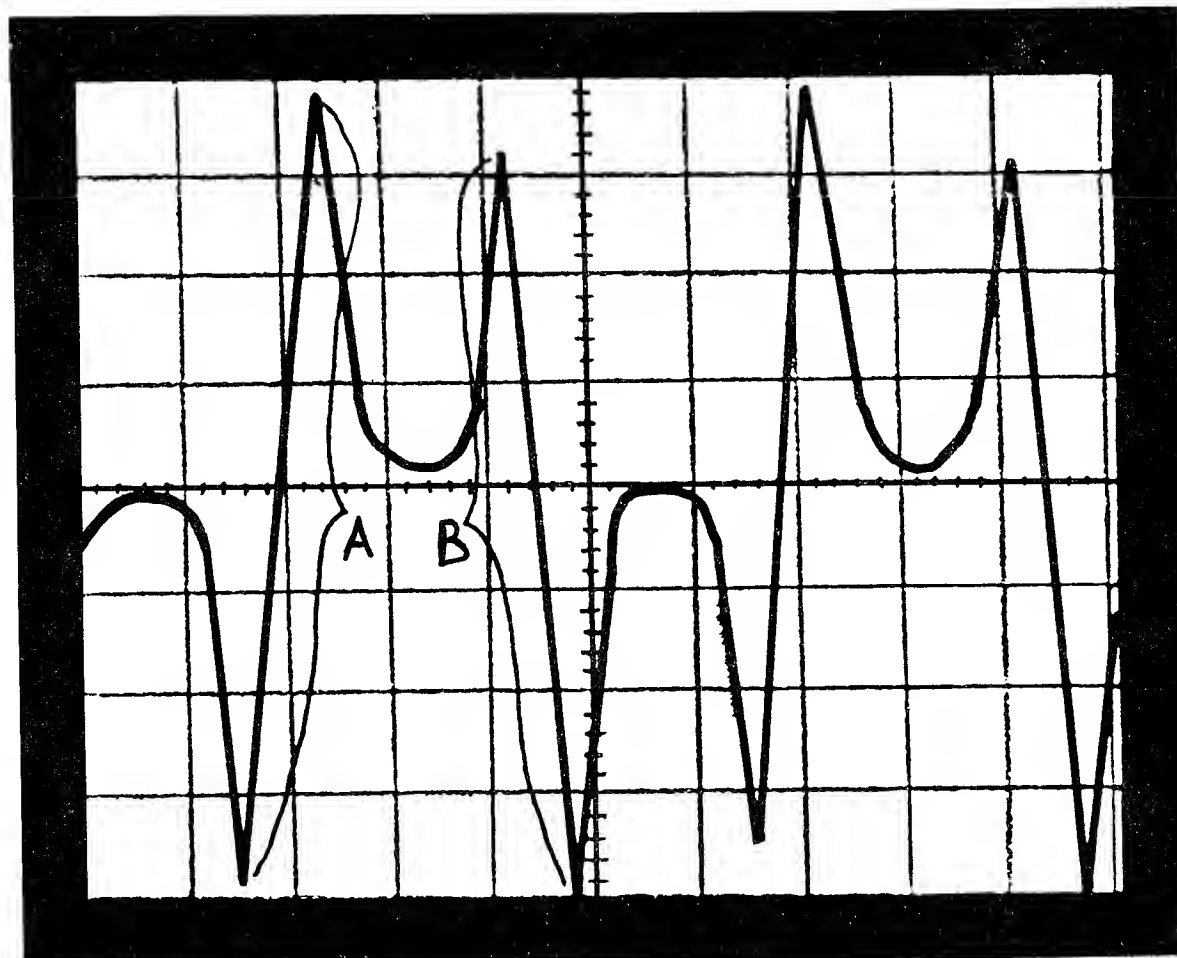

Figure 23. Ideal Dibit Pattern
6. The Dibit Pattern shown in Figure 23 should now be displayed on the oscilloscope. Adjust scope sync if necessary. Correct alignment is indicated by the Amplitude "A" and the Amplitude "B" being equal.